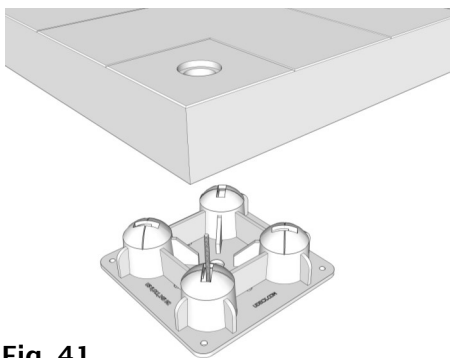

Fig. 41
After four Piers (A) are located and anchored, place a Pad (B) on top of the Piers (A) (Fig. 41).